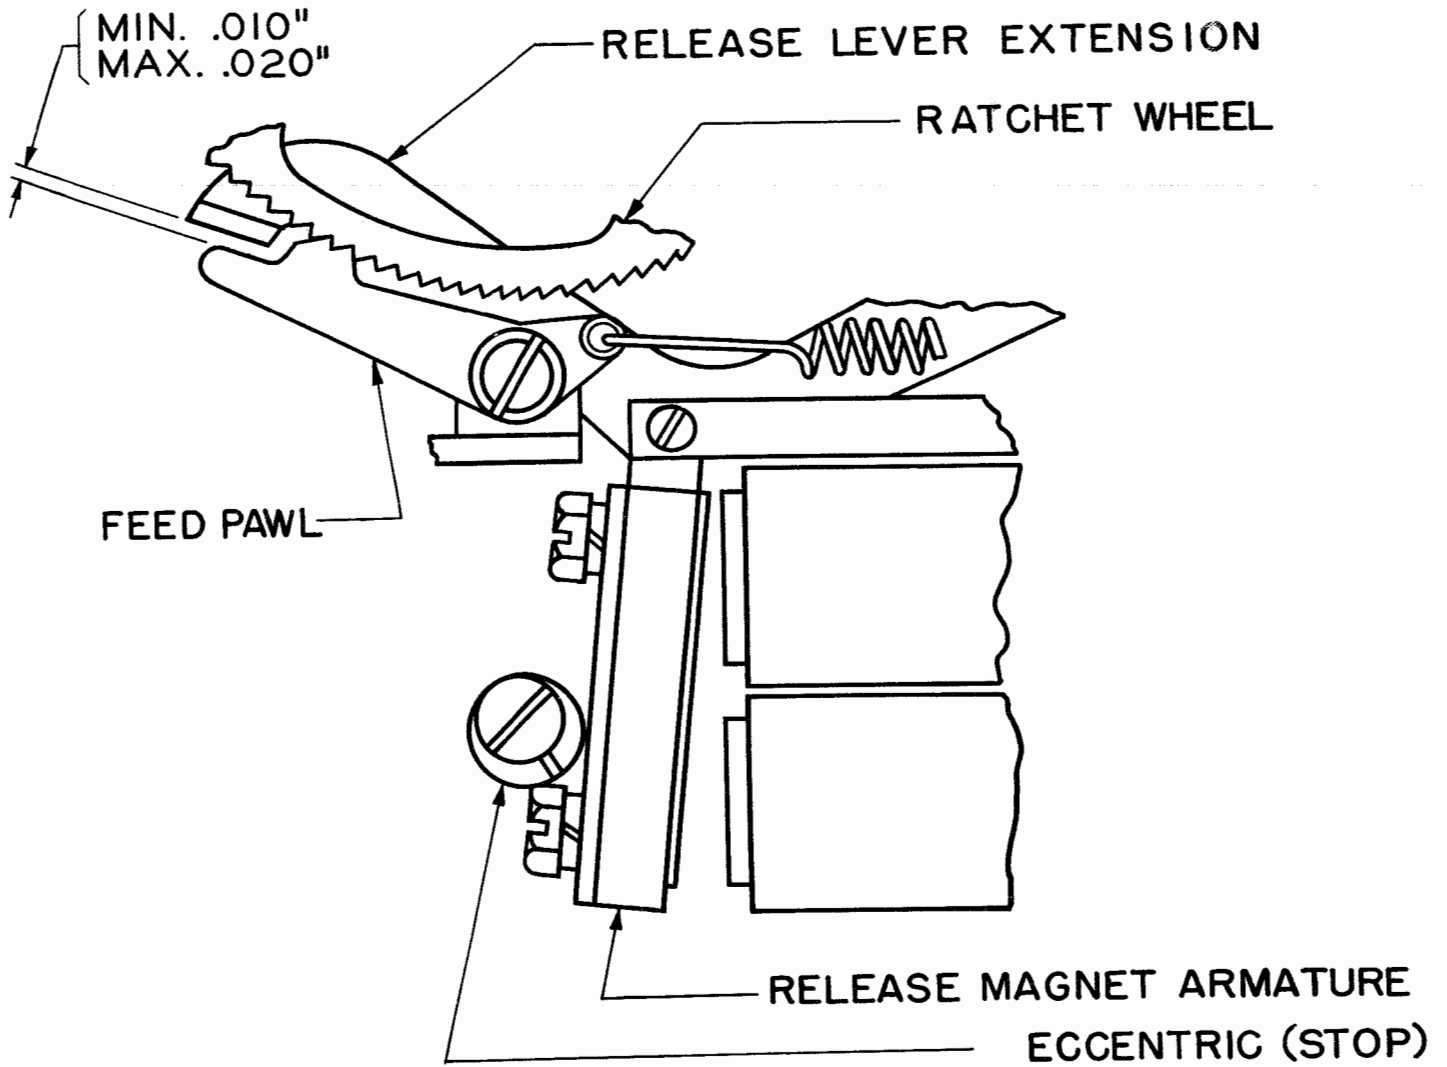

Figure 48
6.04 Release-lever Extension should clear the feed pawl by minimum 0.010 inch, maximum 0.020 inch when the feed pawl is in full engagement with the ratchet-wheel teeth and the release-magnet armature is in its unoperated position. See Figure 48.